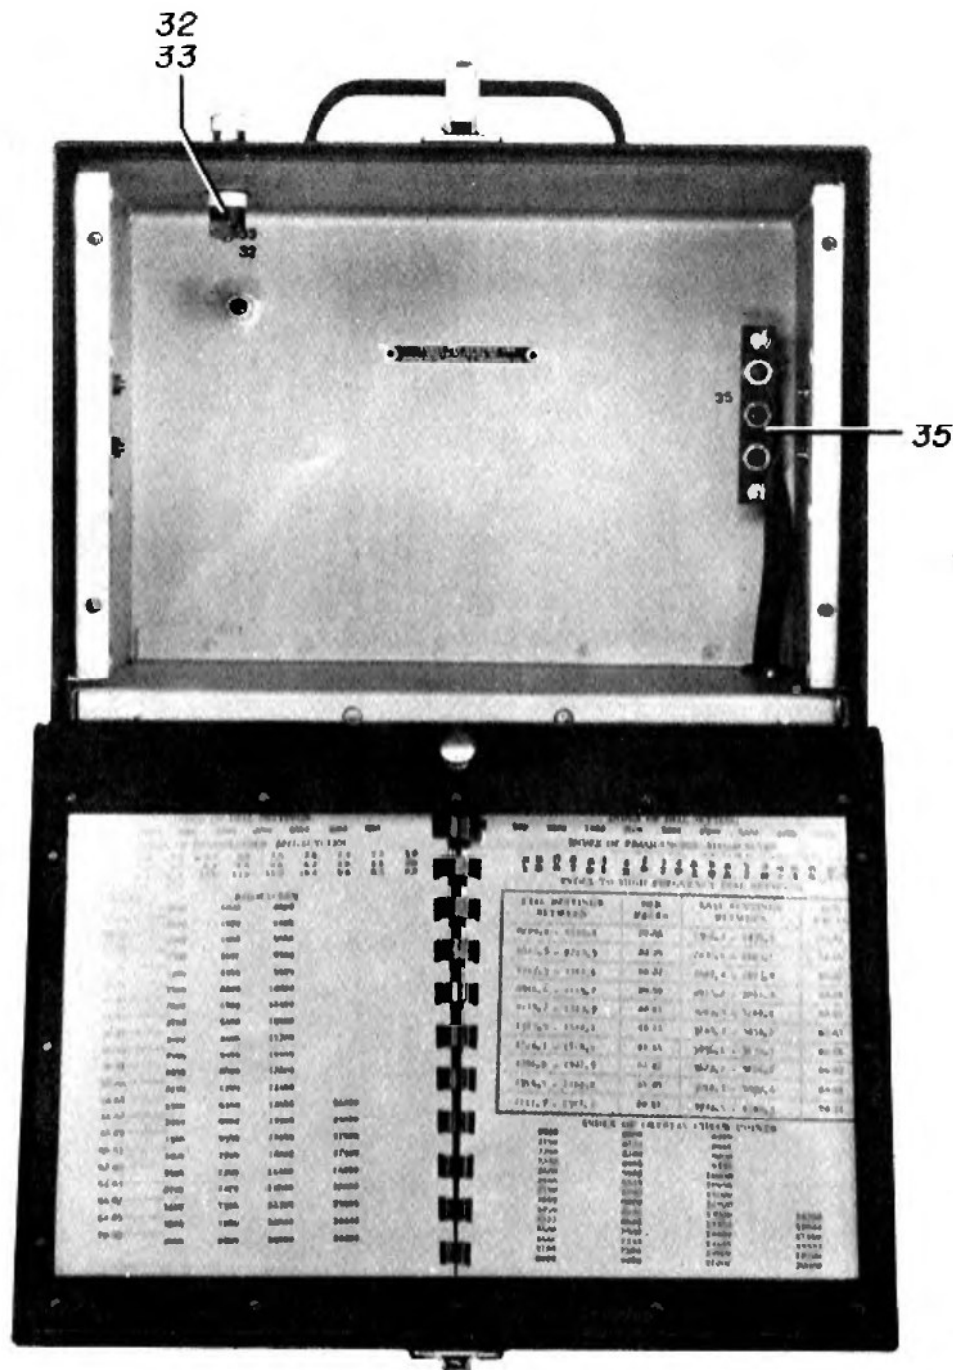

FIGURE 5 — FREQUENCY METER BC-221-M, FRONT VIEW WITH CHASSIS REMOVED
**13. FREQUENCY METER BC-221-M.**—*a.* Frequency Meter BC-221-M contains a crystal controlled oscillator used as a reference standard, a heterodyne oscillator having two fundamental tuning ranges which, with their useful harmonics, are calibrated to provide continuous coverage from 125 to 20,000 kcs; a high gain detector provided with means for coupling to each of three sources of excitation, and an audio frequency amplifier. There are eight operating controls, a POWER switch 29a-29b, which breaks both the filament and plate supplies; two output PHONES jacks, 13-1a and 13-2a with two filament supply switches 13-1b and 13-2b built integral therewith; a HET. OSC.-XTAL CHECK-XTAL ONLY oscillator switch 28; a two-position FREQUENCY BAND switch 27a, b, c, d for the heterodyne oscillator; the heterodyne oscillator worm and gear tuning control together with its DIAL UNITS and DIAL HUNDREDS scales; the CORRECTOR control; and the output GAIN control 26. All of these controls are mounted on the front panel of the frequency meter chassis, which is completely housed within the upper compartment of a portable aluminum cabinet in which batteries and spare parts are also carried. The removal of the nameplate from the front panel of Frequency Meter BC-221-M exposes the slotted shaft of the crystal trimmer capacitor 42, which can be adjusted if the accuracy of the crystal oscillator calibration is suspected. An antenna plug 31 and the 3-contact power input plug 34, on the chassis engage with corresponding jacks on the cabinet when the chassis is secured in place. The antenna jack 32 is connected directly to an antenna terminal post 33 on the top of the cabinet, and the power input jack 35 is connected through cabling to a battery terminal board 36 in a lower compartment. Provision is made for installing the batteries in this lower compartment, access to which may be had through a hinged door at the rear. Calibration Book MC-177-M is mounted within a dual hinged door assembly at the top front of the cabinet. This door covers the frequency meter panel when closed, and supports the calibration book at a convenient angle for use when opened (see Figure 5). The spare set of vacuum tubes and two special wrenches for the #6 and #8 Bristo setscrews used in the assembly of the equipment are stored in the spare parts compartment at the bottom front of the cabinet (see Figure 6). A rigid carrying handle is welded on the top of the cabinet and, in addition, suitable fixtures